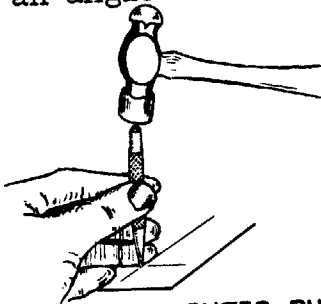

FIG. 16 USING A CENTER PUNCH
2. Grasp the punch in the left hand and punch directly on the line or intersection of lines to be marked. (Fig.16).